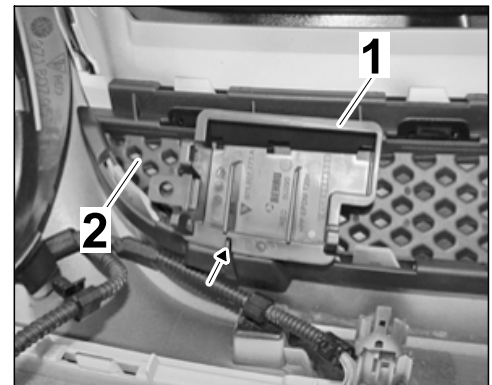

Figure 12
2.10.3 Position VIP holder ⇒ *Figure 12-1*- on guide lug ⇒ *Figure 12-arrow*- on the center grille ⇒ *Figure 12-2*- and press on firmly.